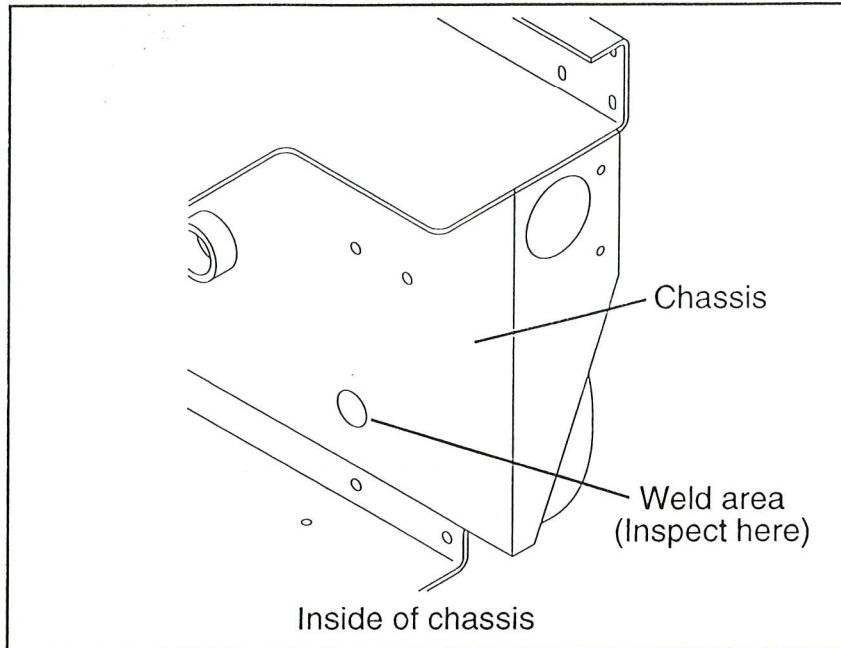

Figure 1
PROCEDURE: Read all instructions thoroughly and refer to figures 1 and 2 before starting.
1. Visually inspect both rear spindle/chassis welds (Figure 1). Verify both rear spindle/chassis welds are free of cracks. NOTE: If a weld crack is present continue to step 2. If no weld cracks are present continue to step 4.
2. Grind cracked weld from spindle/chassis area (Figure 1).
3. Reweld spindle to chassis (Figure 1).